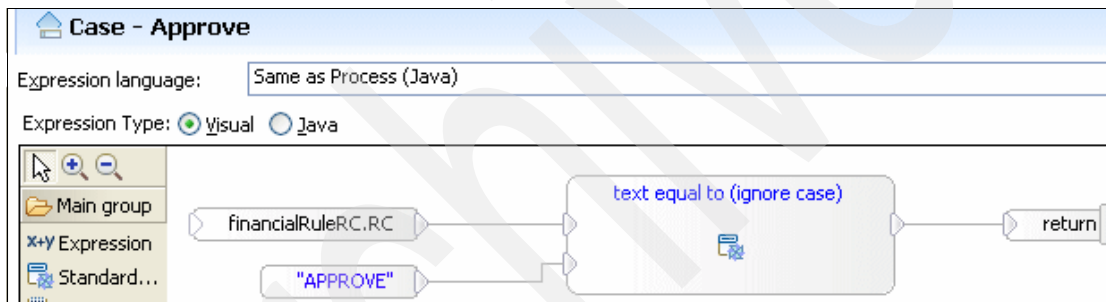

Figure 3-67 Case - Approve logic on financial path
- iv. Wire as shown in Figure 3-67.